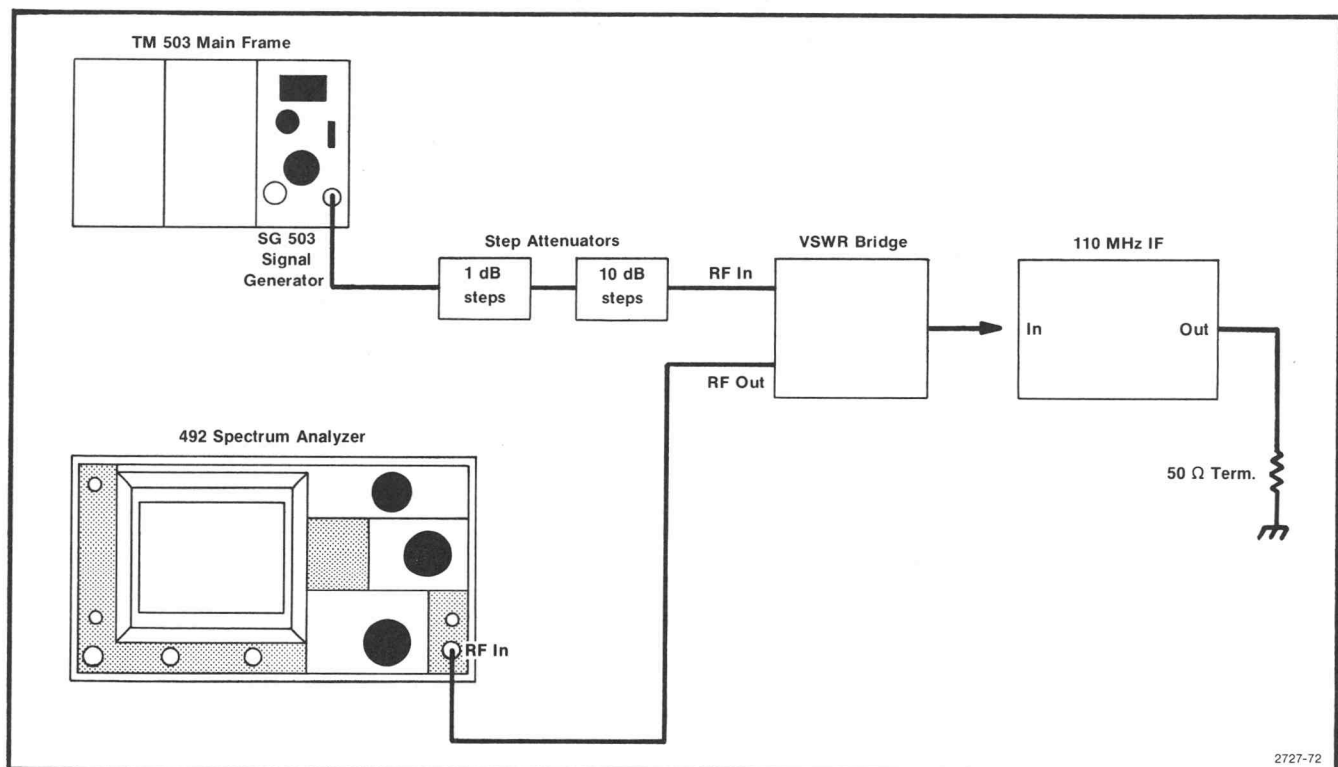

Fig. 4-10. Test equipment setup for adjusting return loss for the 110 MHz IF assembly.
1. Test equipment setup is shown in Fig. 4-10. Apply 110 MHz at 2 V p-p (+10 dBm) through 35 dB attenuation to the RF Input of the VSWR bridge. Connect the RF Out of the VSWR bridge to the RF Input of the spectrum analyzer. (Do not connect the 110 MHz IF to the VSWR bridge.)